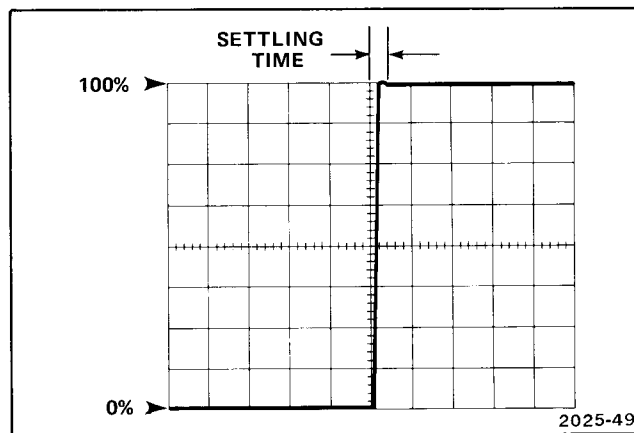

Figure 6-4. Typical crt display for vertical settling time measurement (settling time includes corner distortion).
- ✓ d. CHECK—That the time required for the leading edge of the square wave to travel from the zero percent level to the 100 percent level (see Fig. 6-4) is 500 nanoseconds (0.5 division) or less, within a trace width (0.025 centimeters).